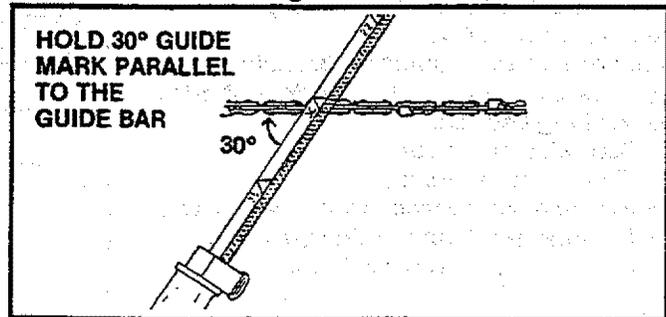

Figure 37
- b.) Hold the file holder level with the 30° guide mark parallel to the center line of the bar. Figure 37.